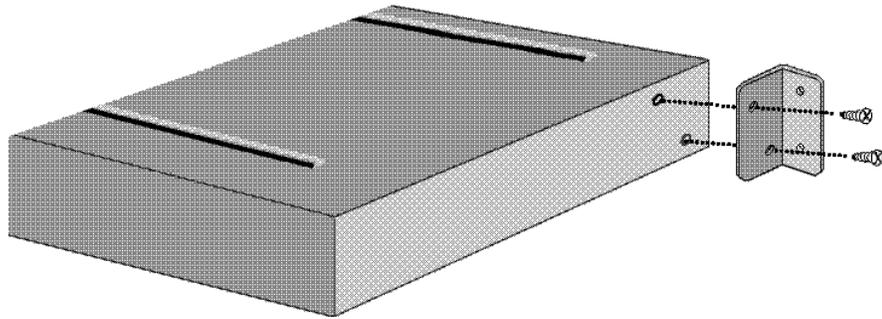

Figure 2-1. Attaching a Mounting Bracket.
- 1** Find the mounting brackets (2) and the screws (4) that are included with the package.
- 2** Line up the holes in the mounting bracket with the holes in the MP/8 V.34, and then screw the bracket in place. See Figure 2-1.